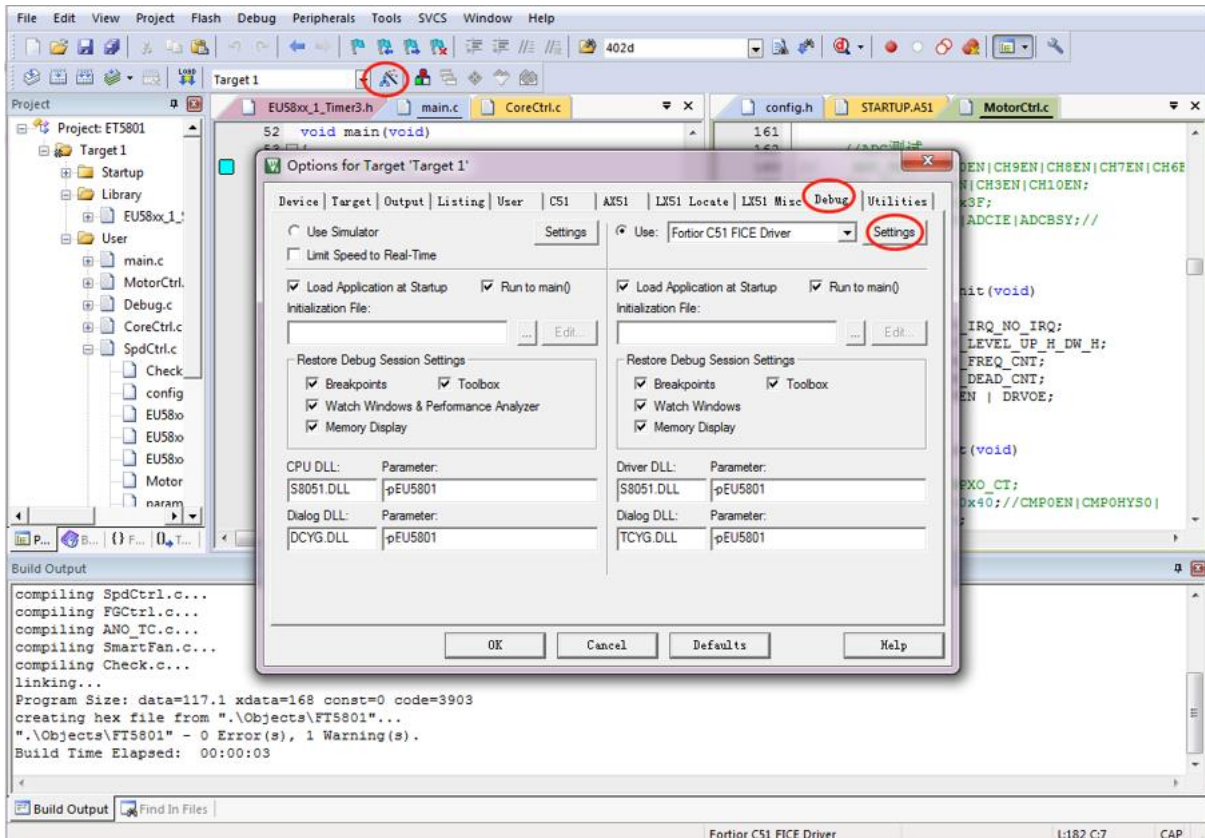

Figure 25-1 Code Protection Configurations
1. Start 8051 IDE, enter Target Options and select Debug tab. As shown in Figure 25-1, click Settings to proceed with the setting;